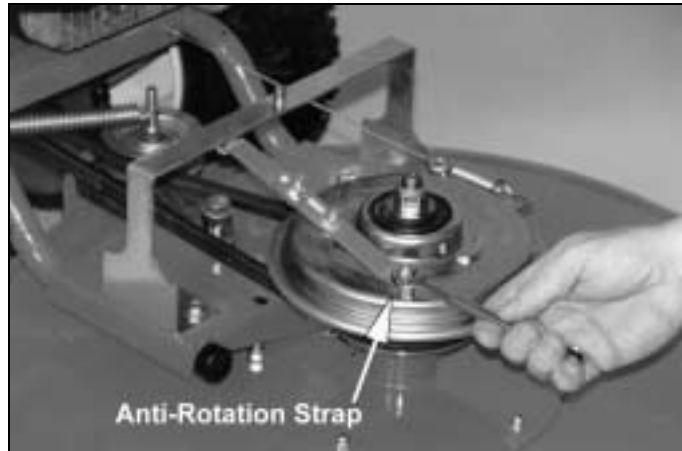

Figure 13
2. Using a 1/2" wrench or socket, remove the lock nut on the anti-rotation strap and pull the strap away from the post (*Figure 13*).
7. Replace the anti-rotation strap (*Figure 13*).